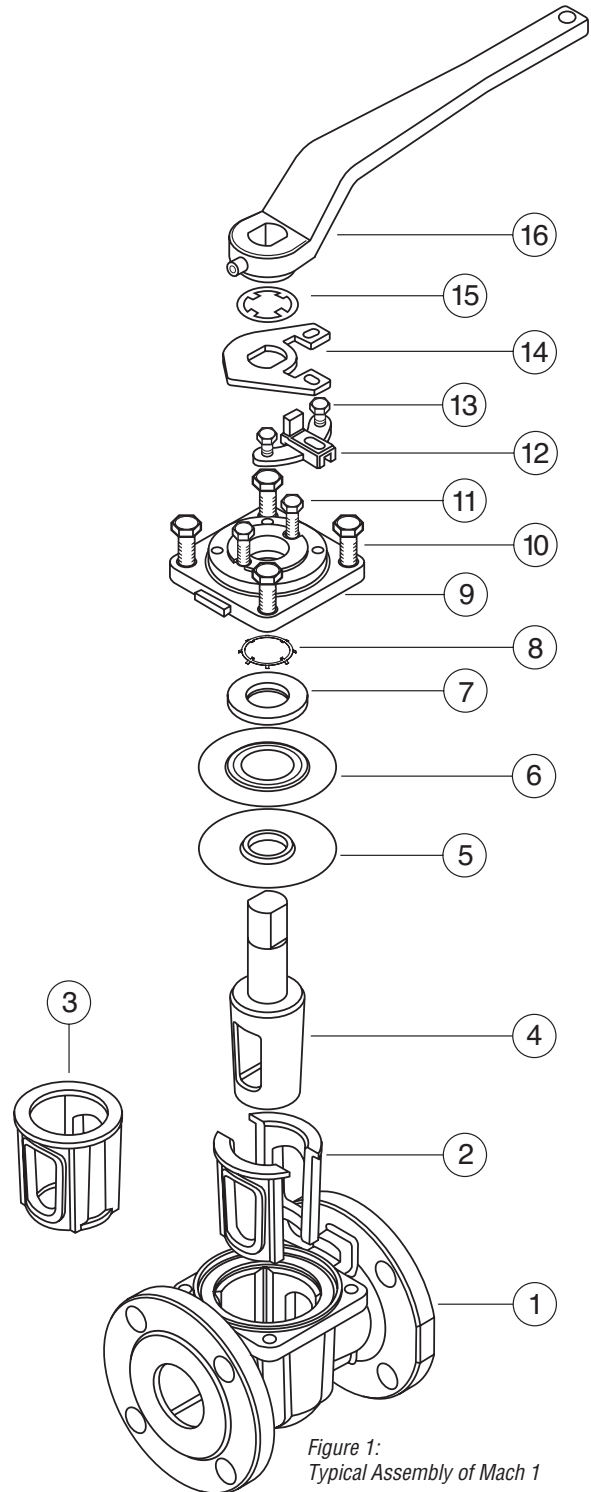

Figure 1:
**! NOTE:** Refer to Figure 1 or Figure 15 for parts identification.
! **NOTE:** Refer to Figure 1 or 5 for parts identification. If an actuator or gearbox operates the valve, alignment marks should be noted to assure correct orientation when reassembled. This may best be accomplished by making matching marks on the plug stem and operator housing with no burrs made on the plug stem.
**! NOTE:** Part number reference is shown in Figure 1.